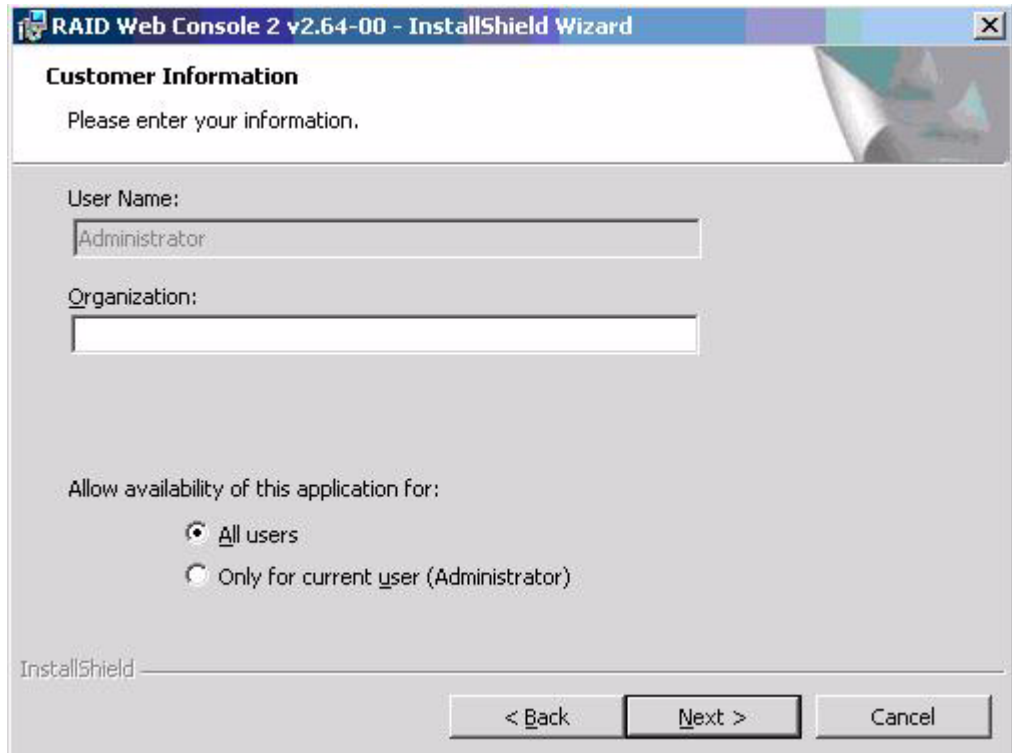

Figure 33. Intel® RAID Web Console 2 – Customer Information Screen
3. When the next screen is displayed, read and accept the user license and click **Next**. The Customer Information screen is displayed, as shown in Figure 33.